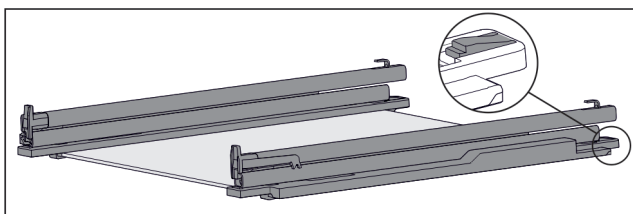

Fig. 125 Glass shelf with rails and retaining parts
- ▶ Press down retaining part at the rear (see *Fig. 125*) and at the same time push the rail back.